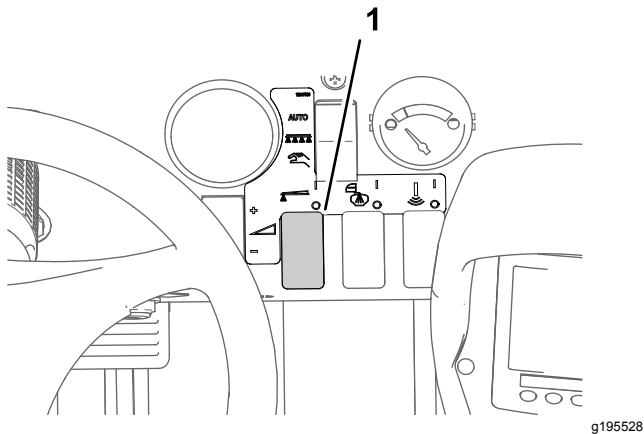

Figure 32
- Use the application-rate switch to achieve the desired spray pressure as indicated in the nozzle-selection guide provided with the sprayer (Figure 32).